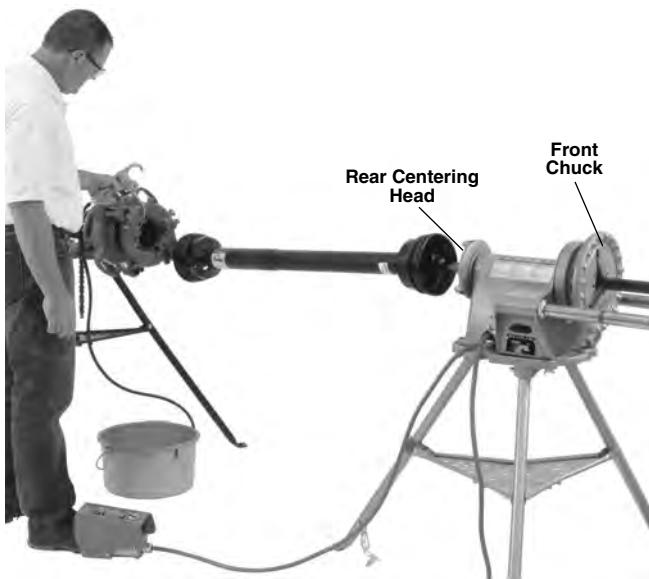

Figure 11 – Threading With Universal Driveshaft
10. Assume a proper operating position to help maintain control of the machine and process (see *Figure 11*).